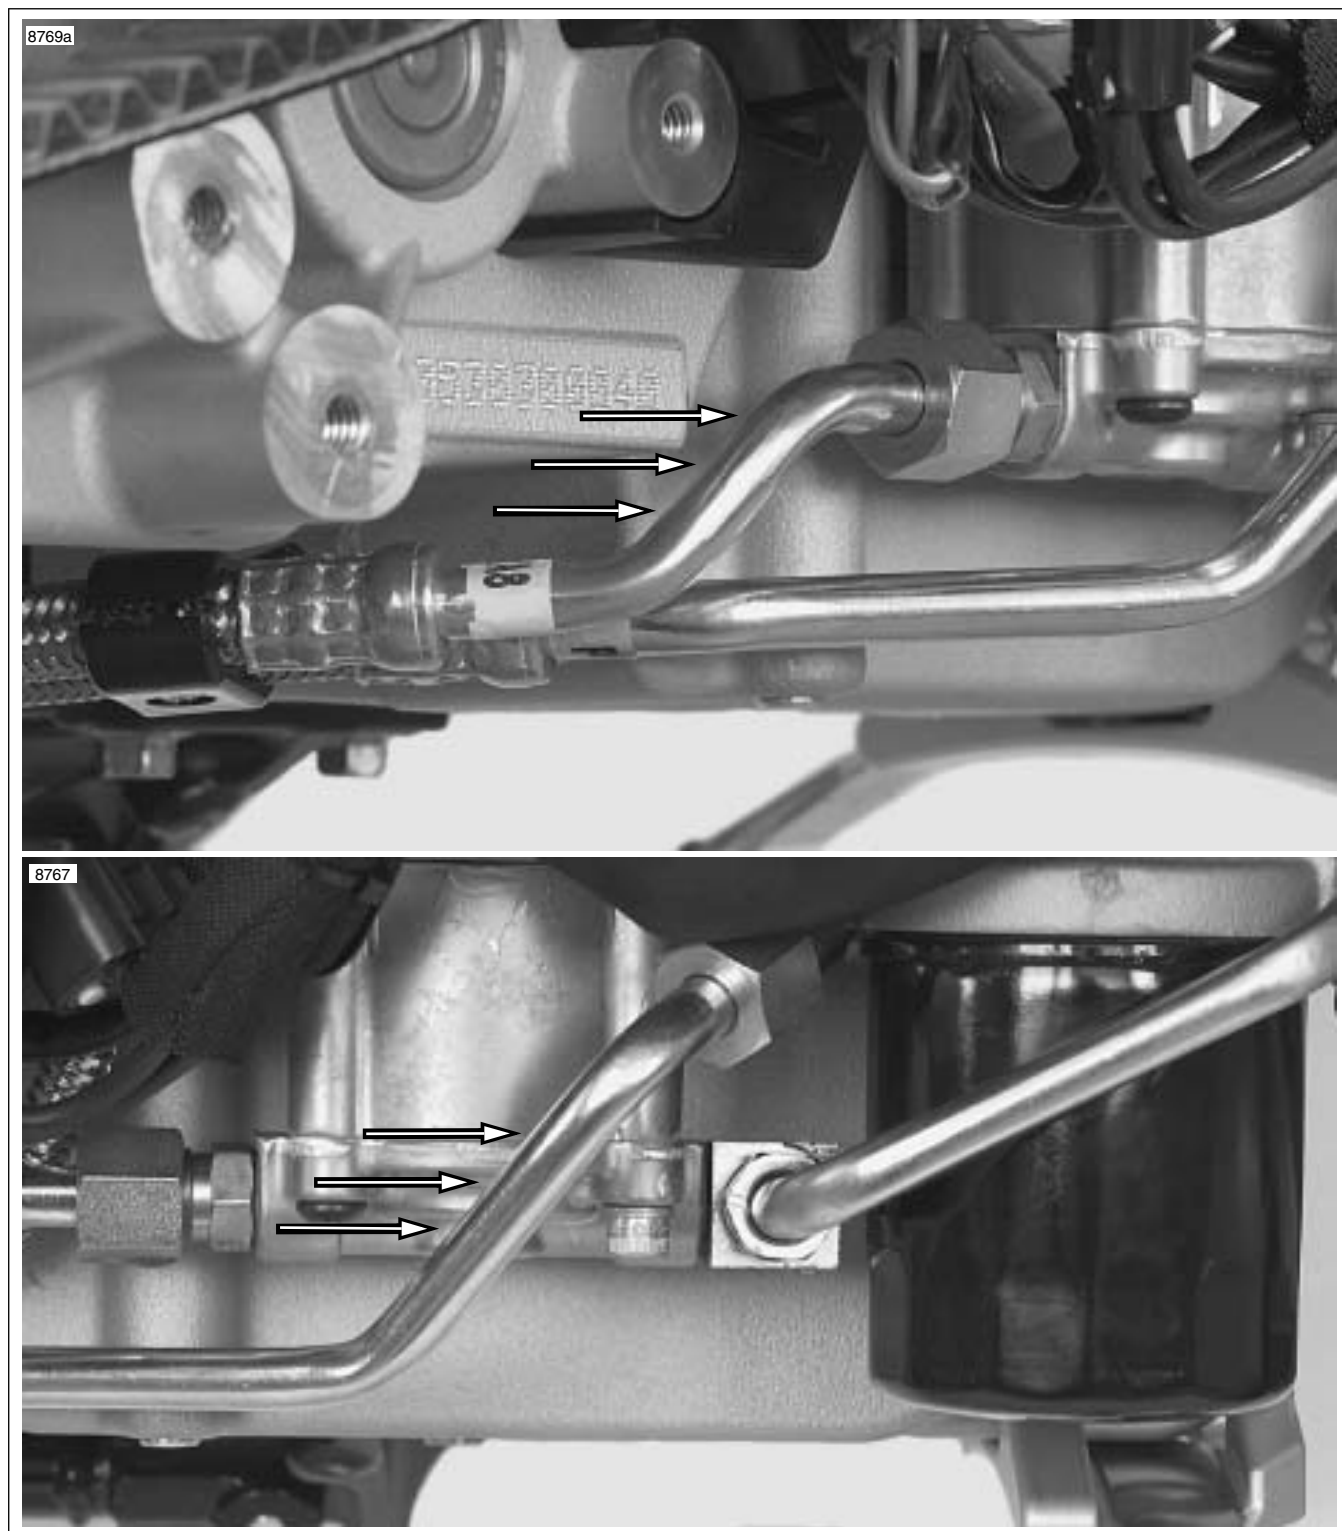

Figure 3-49. Approximate Seven O'Clock Orientation of Oil Feed Line and Oil Return Line at the Oil Pump
24. See Figure 3-49. The feed oil line at the rear of the of the oil pump should be tightened to 27-29 ft-lbs (36.6-39.3 Nm). When the oil line has been properly torqued, the orientation of the line should be approximately 7 o'clock.